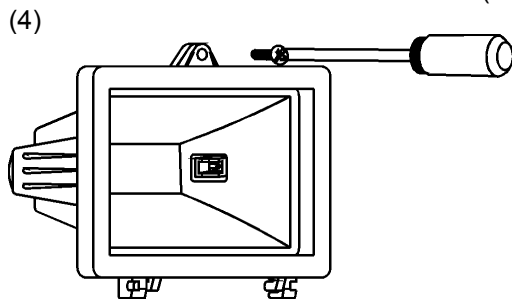

FIGURE 4
- (1) Do not touch the floodlight while it is in use or still hot. Allow it to cool before touching it.
- (2) Do not use halogen lamps rated higher than 150 watts for SEC150 and 500 watts for SEC500.
- (3) Disconnect the power cord or wall switch. Unscrew retaining screw at the top of the unit. This will release the front surround.(FIGURE 4)